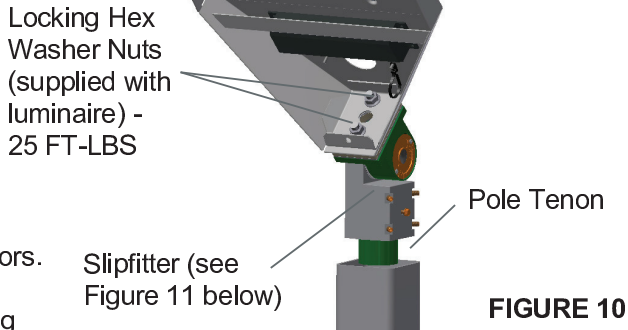

FIGURE 10
G. USING OPTIONAL ADJUSTABLE SLIPFITTER ON POLE TENON - FIGURES 10 & 11
2. Secure lower half onto tenon bracket using (4) set screws provided in slipfitter. Be sure slipfitter is correctly aligned for proper luminaire aiming. Tighten all (4) to **5 FT-LBS**.